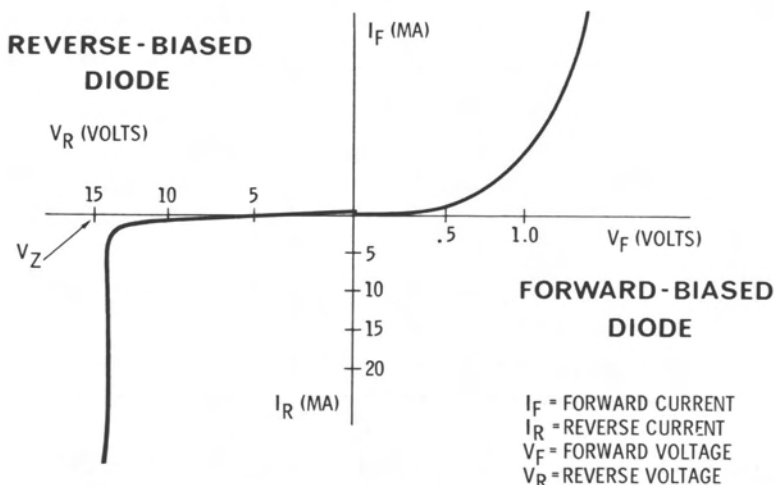
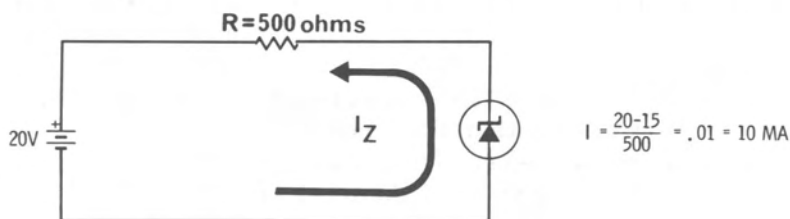

Fig. 6-3. Zener-diode characteristics.
Fig. 6-4. Series-limiting resistor.
The voltage-current characteristic curve for a typical zener diode is shown in Fig. 6-3. The forward-biased zener is represented by the right-hand half of the curve and is similar to a regular semiconductor diode. The portion of the curve that characterizes the zener diode, and therefore, is of particular interest here, is the left-hand portion of the curve. The forward-voltage portion of the curve is not drawn in proportion to the reverse-voltage portion. The forward portion remains relatively constant for all zeners and it is drawn in the illustration out of proportion to the reverse voltage to show more detail. The position of the zener breakdown voltage will naturally vary, depending of the type of zener. This illustration shows a 15-volt zener diode.
The most important characteristic of the zener diode in selecting one for a particular application is the zener breakdown voltage. As the reverse voltage across the diodes is increased from zero, a point will be reached where the voltage will not increase any further. This point is labeled V_z in Fig. 6-3 and is called the zener breakdown voltage. At this point, the current changes from practically no conduction at all to a value that is determined by the amount of resistance in series with the zener diode. This is shown in Fig. 6-4. A power-supply voltage higher than the zener voltage should not be put directly across the zener because there will be nothing to limit the current, and destruction of the unit is likely to occur. The current through the zener is actually determined by the resistor in series with it, and the voltage across the two components. A simple calculation is included in the illustration to demonstrate the point.
Of prime importance to notice in the illustration of Fig. 6-3 is that in the breakdown region, a constant voltage, V_z , is available for a rather large range of current. The limiting factor of the allowable amount of current that a zener can conduct is its rated maximum power dissipation as discussed in the next section, when some simple circuits are explained.
- Q6-6. If the power supply in Fig. 6-4 were lowered to below _____ volts, there would be a negligible amount of current.